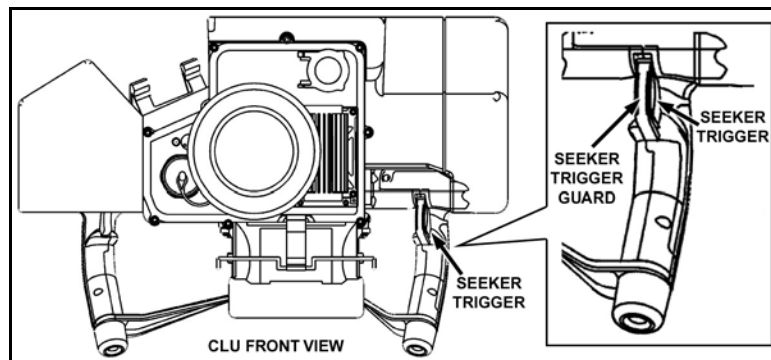

Figure 2-5. Left handgrip controls—seeker trigger.
(5) **Seeker Trigger**. The seeker trigger is the trigger located on the fingertip (front) side of the left handgrip (Figure 2-5). This trigger activates the seeker, locks the seeker onto the target, and enables the *fire trigger*. A trigger guard protects against accidental activation.